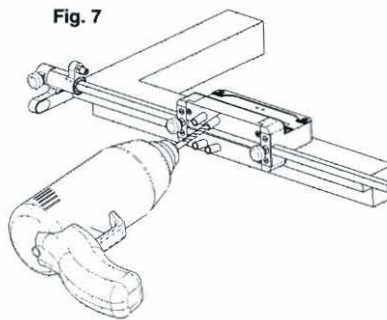

Fig. 7
3) Drill the frame using the bit guide bushings (Figure 7). Repeat the operation for each jig.